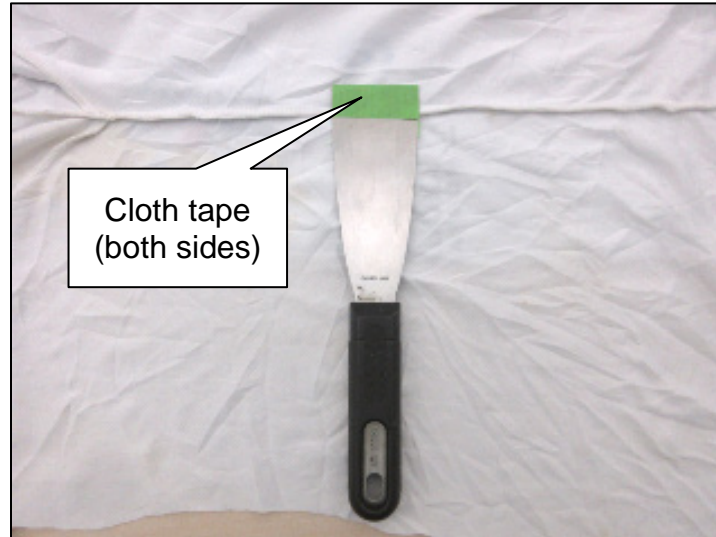

Figure 2
3. Apply Cloth tape to the Putty knife blade tip (both sides), as shown in Figure 2.